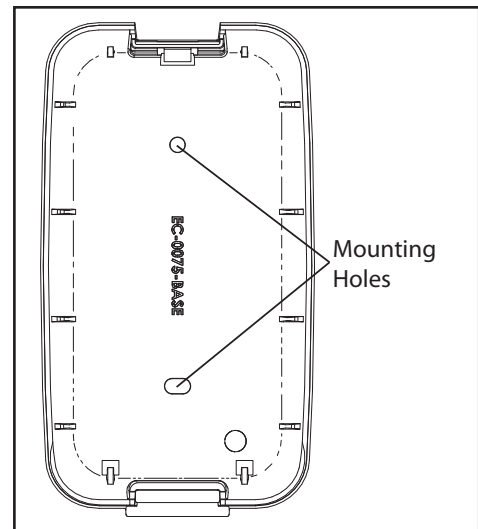
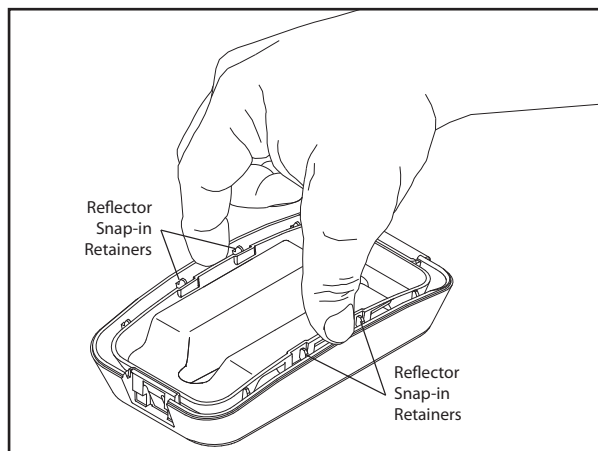

Figure 4: Screw Mount
Figure 5: Reflector Removal
2. The base contains the reflector, PCB and batteries. Gently squeeze and lift the reflector from the snap-in retainers on the base to expose the PCB (see Figure 5). It is not necessary to remove the PCB to access the mounting holes. See Figure 4 for mounting hole locations.